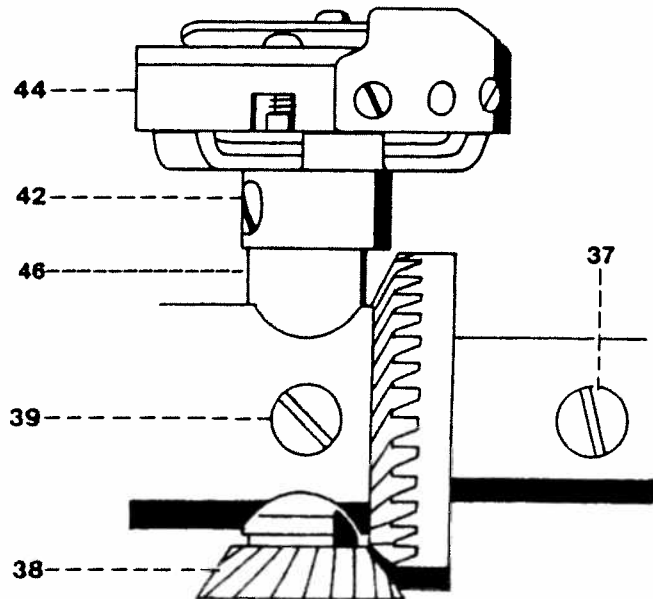

Fig. 40c
- Unscrew screw 37 of the lifting eccentric (fig. 40c).
- Unscrew screw 39 at the sewing hook bearing and remove hook shaft bushing 46 (fig. 40c).
- Insert hook shaft bushing 46 and tighten screw 39 lightly (fig. 40c).
- Insert sewing hook 44 and tighten one of screws 42 (fig. 40c).